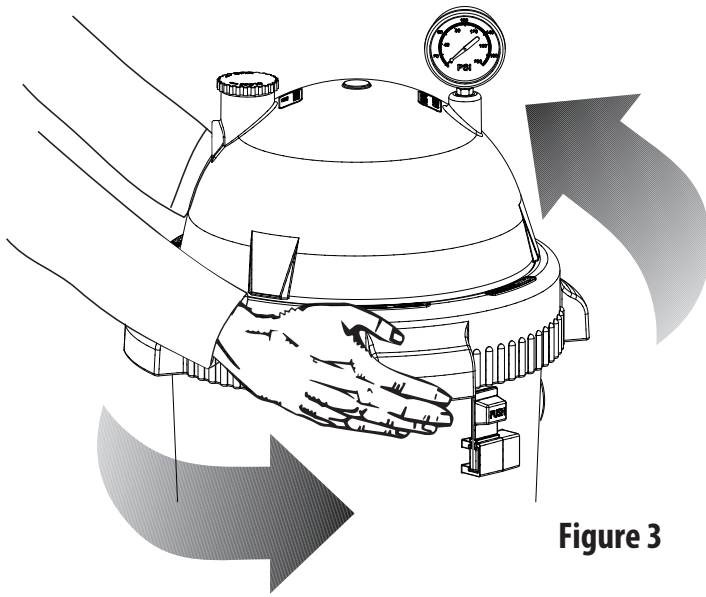

Figure 3
1. Securely lock the Pro-Clean Ring in place by rotating it **CLOCKWISE** until it "clicks" past the safety latch (see Figure 3). Stop turning as soon as the ring clicks past the latch. The ring may feel slightly loose, but it will tighten up when the pump is on and the filter is under pressure.
- C. Rotate the ProClean Ring clockwise until it locks behind the safety latch (see Figure 3).
- A. Press the safety latch (below the ring) toward the tank to release it (see Figure 3).